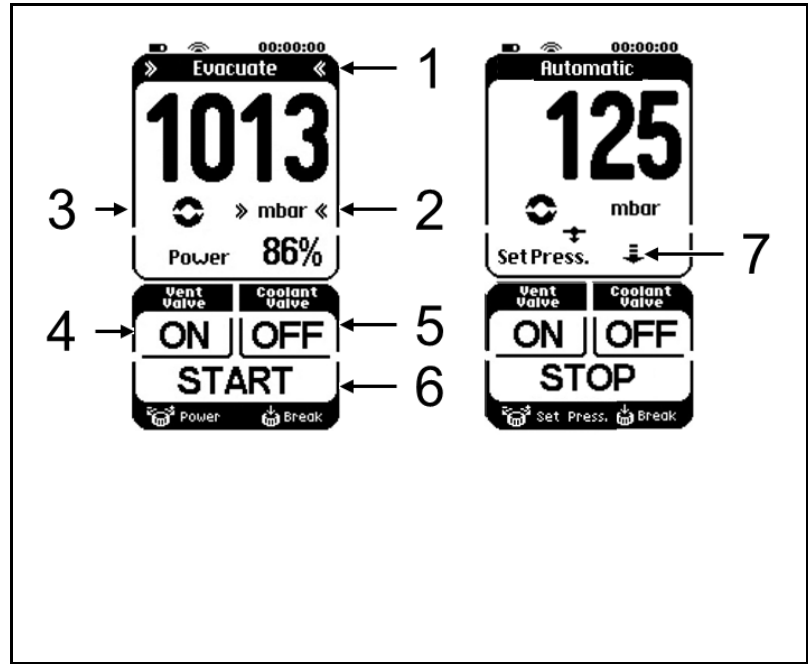

Fig. 9: Menus and buttons on the touchscreen
- Menu for selecting operating mode and units for pressure display (Fig. 9, page 25).
- Operating buttons (Fig. 9, page 25) with the following functions:
i If you press the arrow key (see Fig. 9/7) during automatic pressure reduction, the current pressure is applied as the new setpoint pressure and the vacuum pump system regulates to this pressure. The current setpoint pressure is shown in the display in place of the arrow.